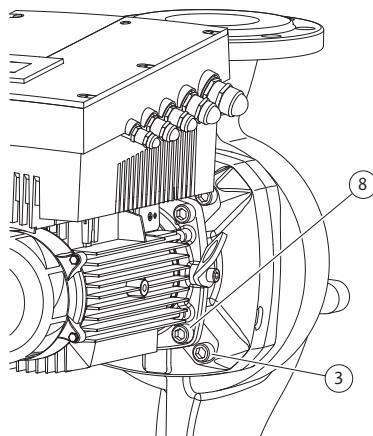

Fig. 50: Optional fixation of the motor impeller unit
11. Loosen and remove the screws (Fig. 7, Item 3). Depending on the pump type, the outer screws (Fig. 50, Item 3) are to be taken. The motor impeller unit (see Fig. 13) remains securely in the pump housing after the removal of the screws; there is no a danger of tipping even in the horizontal position of the motor shaft.
22. Carefully push the lantern over the shaft and position it in the old position or another desired angular position to the motor flange. Observe the permitted installation positions of the components when doing this (see chapter 7.1 "Permitted installations position and change of the arrangement of components before the installation" on page 83). Attach the lantern with the screws (Fig. 7, Item 10) **or** – for the pump/lantern types in accordance with (Fig. 50) – with the screws (Fig. 50, Item 8) at the motor flange.